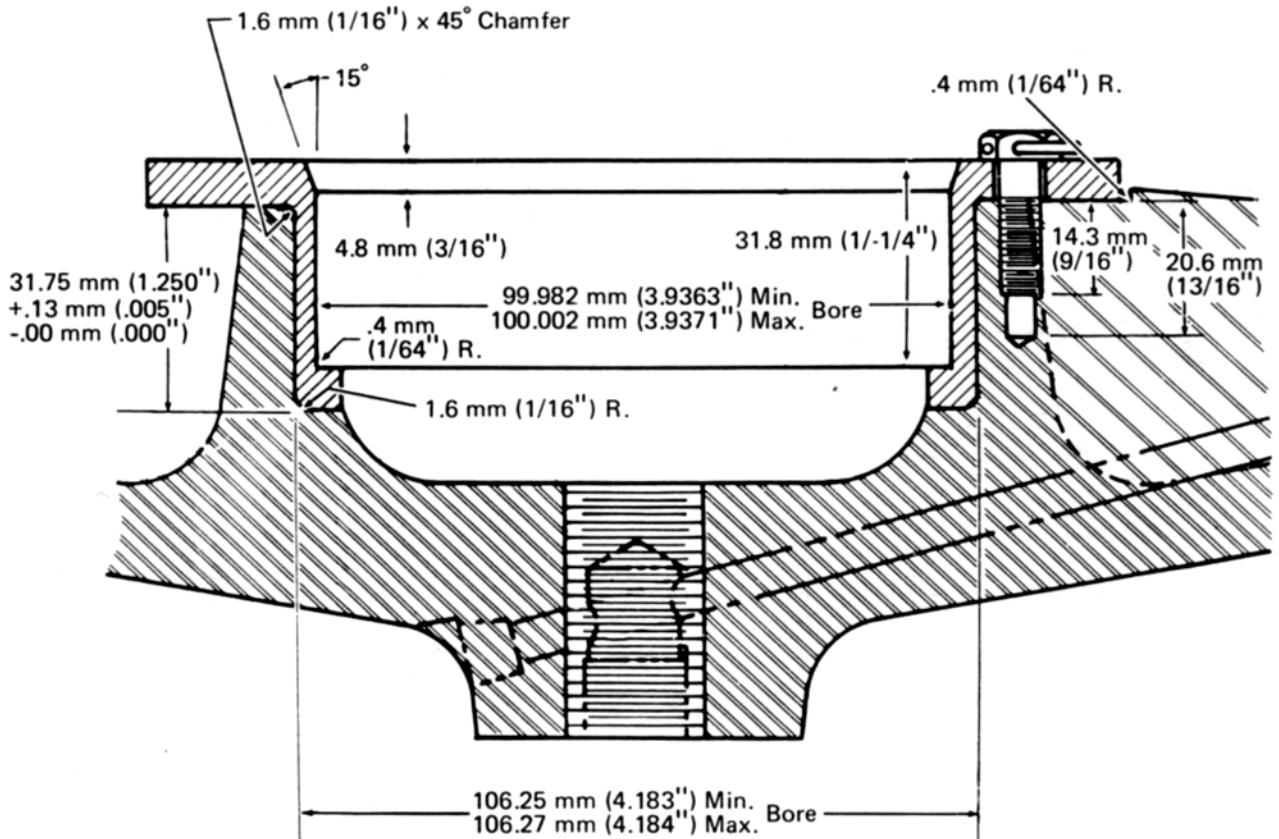

Fig. 15 -- Installing Cooling Fan Pilot Bearing Insert
1. Check the upper pilot bearing insert, (3) Fig. 3, to be sure it is clean and free of nicks or scuffs. Early model cooling fans that are not equipped with the upper pilot bearing insert should have this insert applied as shown in Fig. 15. The cooling fan housing must be bored to 106.25 mm (4.183") to 106.27 mm (4.184") diameter and insert 8307555 installed. Use the insert as a template to drill and tap the five 1/4"-20 thread UNC-2B bolt holes being sure the insert is aligned so the holes are centered over the cooling fan webs. Bolt the insert to the housing, torque to 6 ft-lbs, and lockwire. Bore the insert to the required dimensions shown in Fig. 15.